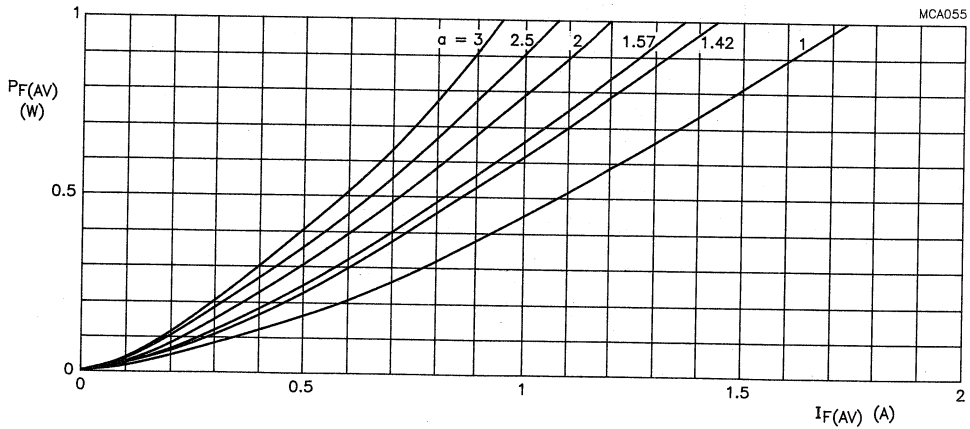

Fig.4 PRL5817. Maximum values steady state forward power dissipation as a function of the average forward current;  $a = I_{F(RMS)}/I_{F(AV)}$ .
6. Determine the  $I_{F(AV)}$ -rating from Figs 4, 5 or 6.